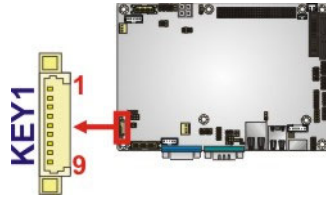

Figure 3-11: LVDS2 Backlight Adjustment Connector Location
- CN Location:** See **Figure 3-11**